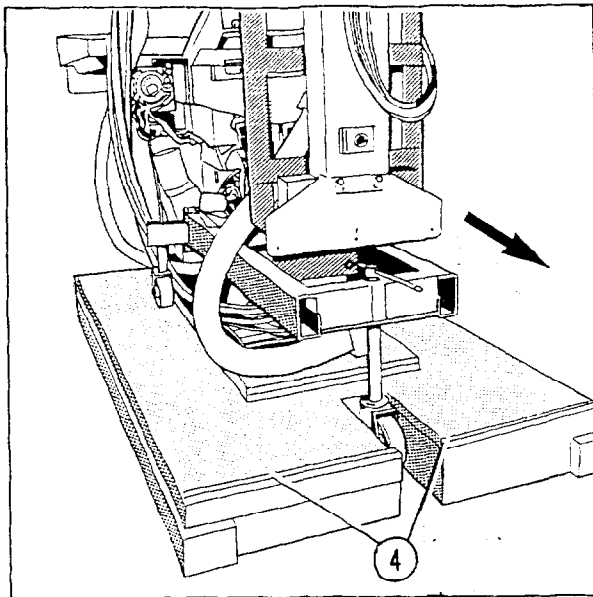
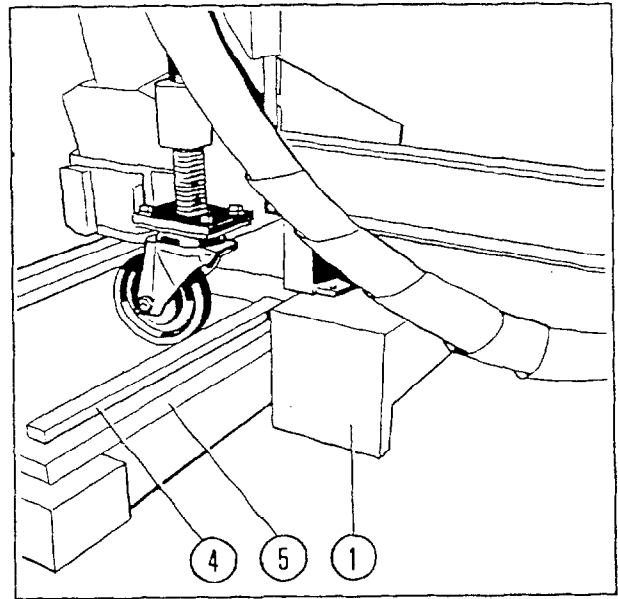

Fig. 5
Fig. 6
- ◀ Lower the unit with the transport frame from the pallet in the direction of the arrow according to Fig.5 until the rear pair of wheels on the l.l. side comes on to the strip that has been fixed with nails (4/Fig.6).
- ◀ Place the supplied support box (1/Fig.6) under the unit.
- ◀ Using the two rear spindles on the l.l. side (2), lower the unit onto the support box (1) (Fig.6).
- ◀ Remove the pallet (5).
- ◀ Using the two spindles (2), lift the unit again and remove the support box (1) (Fig.6).